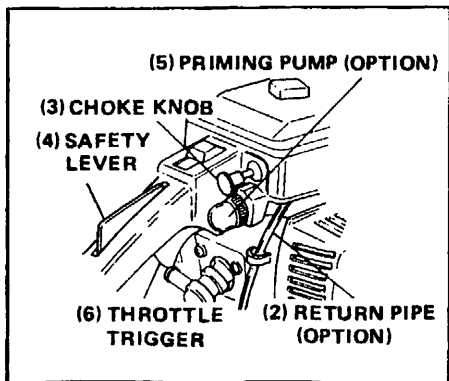

Fig. 8
2. Push priming pump several times until you see fuel flow through return pipe. (If so equipped) (Fig.8)
3. Pull the choke control knob fully to be at the choke position. (Fig.8)
4. With the safety lever pressed, pull the throttle trigger and push in the pushpin to lock the throttle trigger. (When the safety lever is not pressed, the throttle lever cannot be pulled.) (Fig.8 or 9)
3. Tire le bouton de commande de volet d'air en fonctionnement (position "Choke")(Fig.8)
3. Girare pulsante di comando del strozzatore di 90° sulla posizione "choke". (Fig.8)